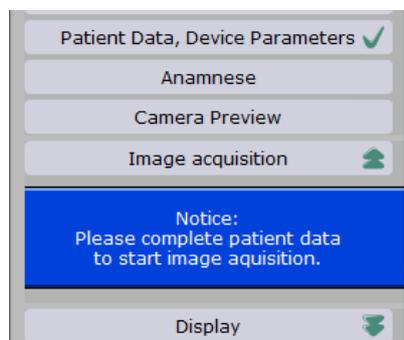

Figure 3.9: Notice: Image acquisition cannot be started
With the button "Go to image acquisition" in the control panel, the mode "Image Acquisition" is opened. A blue notice (see Section 0 and Figure 3.9) will appear and the image acquisition cannot be started if the descriptive patient data fields are not completely filled.
**Button „Go to image acquisition“:** With the button "Go to image acquisition" the mode "Image acquisition" is opened. A blue notice (see Section 0 and Figure 3.9) will appear and the image acquisition cannot be started if the descriptive patient data fields are not completely filled.
If the patient data are not completed or information on operator and/or physician aren't properly specified, a blue notice appears (see Figure 3.9), that information must be entered. The notice covers the "start"- and "terminate"-button, so that the image acquisition process cannot be started. The image acquisition can be started only after entering all required information. The software can only verify the completeness. The user is responsible for the content of the information.